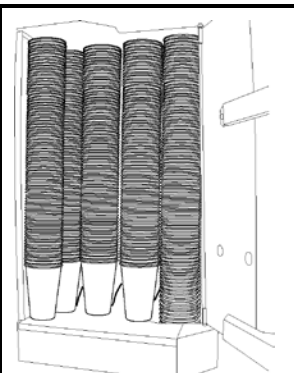

Figure 9b. Cup Stacks
2. The cup compartment can have a total of five (5) cup stacks. Load the compartment with cups starting with the first stack in the cup dispenser mechanism followed by three (3) additional cup stacks. See **Figure 9b**. The cup-stack must be aligned with the top and bottom spirals. Add the fifth cup stack directly in front of the fourth cup stack and place it tight against the left side wall of the compartment.